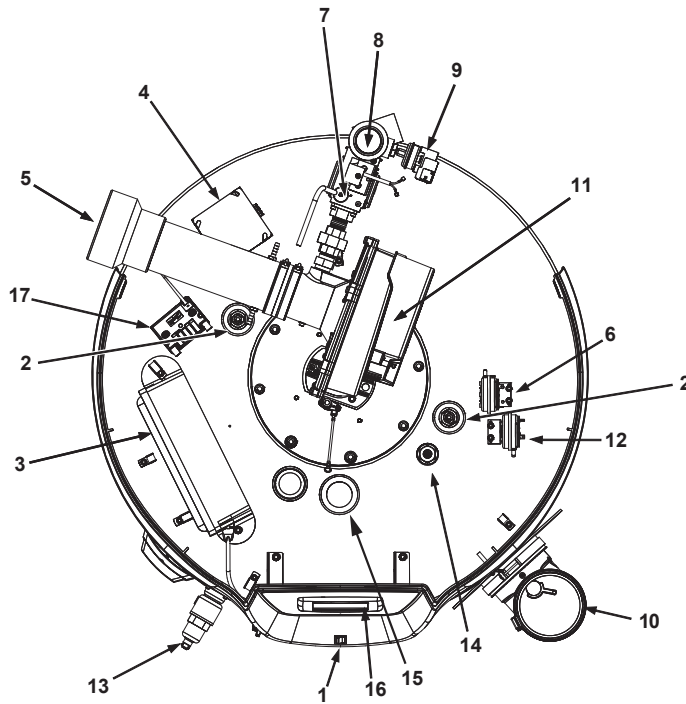

Figure 3. Top View
2. CCB enclosure. See **Figure 3** (page 10) for description.
6. Low Gas Pressure switch. See description under **Figure 3** (page 10). See **Table 4** (page 14) and the Gas Pressure Requirements on page 10.